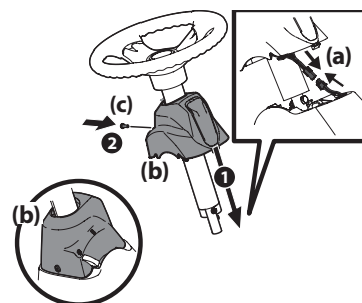

Figure 3
- Remove the pedestal cap mount screw (factory installed) located on the riding mower's steering console. Retain the screw for later instructions. See Figure 3.
- Connect the headlight wire terminals (a). Slide the pedestal cap (b) down onto the riding mower and slightly rotate to the right to clip into place. Secure the pedestal cap (b) with the screw (c) previously removed. See Figure 3.